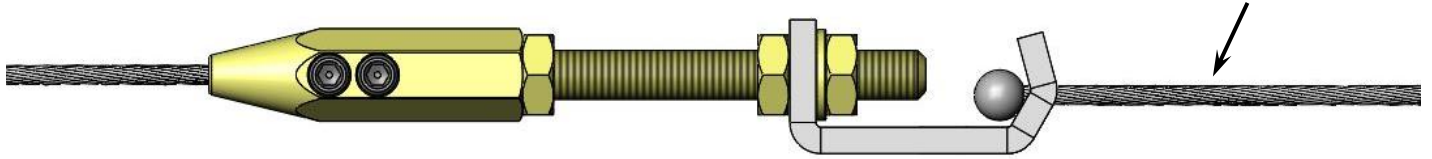

Figure 5 – Attachment to Factory Park Brake Cables w/ Provided Connectors
9. Place the single wire union assembly over the end of the wire and tighten the set screws with a 1/8" Allen wrench. The threaded rod that inserts into the wire union assembly may be shortened to allow for adjustment. Using the provided jam nut, tighten the threaded stud into the union along with the connector if used. If needed, use the provided connectors to attach to the factory cables. Refer to Figure 5 below for reference on using the provided connectors.